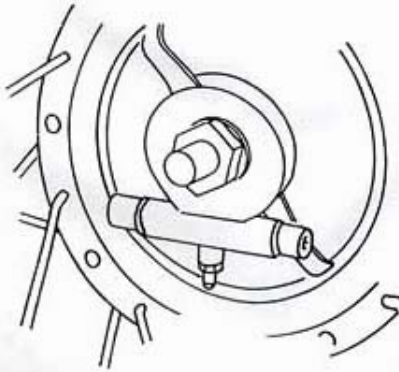

Fig. 1
- Remove the axle nut on the other side of the wheel (18mm wrench), together with the washers and speedometer drive unit (fig. 1).